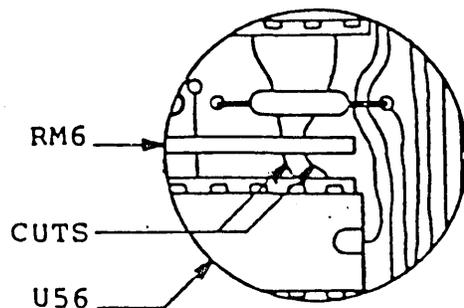

Figure 3
- 5) Cut two traces located on component side of board between U56 and RM6 (see figure 3).